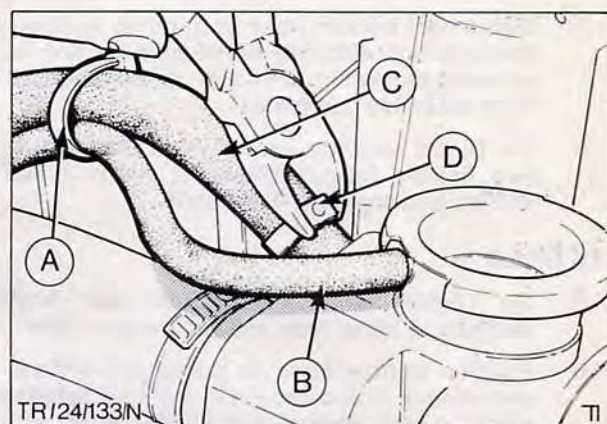

Fig. 23. Cutting non-reuseable clip from hose
3. Disconnect small plastic waste pipe from hose by releasing plastic retainer clips, (two) Fig. 23.
5. Disconnect hose from expansion tank and remove, Fig. 23, by cutting through hose clip with a suitable pair of cutters.